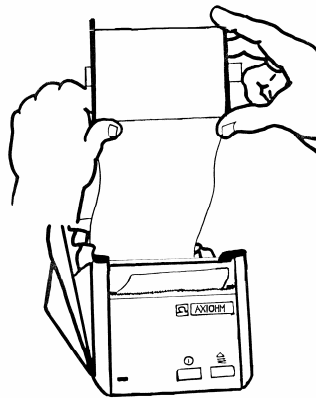

Figure 1-2: Inserting the label into the feed slot before placing the label roll into the printer.
- While holding the spindle of labels in one hand, use your other hand to feed the free end of the roll into the feed slot on the inside of the printer as shown in Figure 1-2. (If it is easier, you can rest the label spindle on the top edge of the printer, freeing both hands to help with getting the label feeding started).